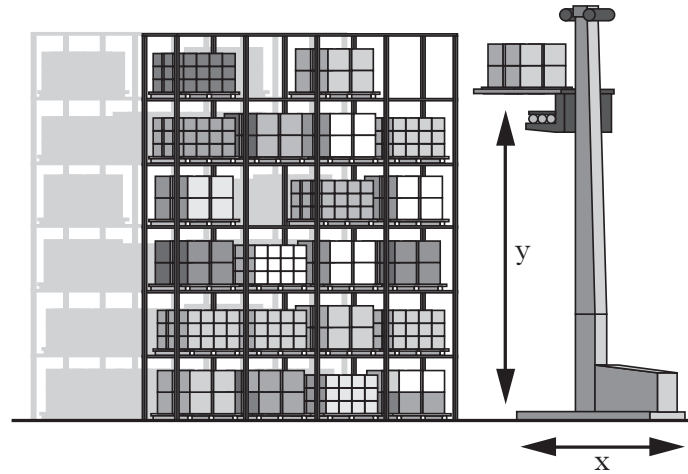

Figure Q10(a)
10. Automated pickers are used in a warehousing depot to find and retrieve stock, as shown in Figure Q10(a). Each picker is controlled by an on-board microcontroller. Movement is provided by two stepper motors controlled by stepper-motor-driver Integrated Circuits.
The sub-procedure *locate*, shown in Figure Q10(b) opposite, controls the movement of the picker to the required component. Values for the distance the picker is to move along the aisle (x-direction), and how far up the stack (y-direction), are sent from the main warehouse program as a number of pulses required by the stepper motors.